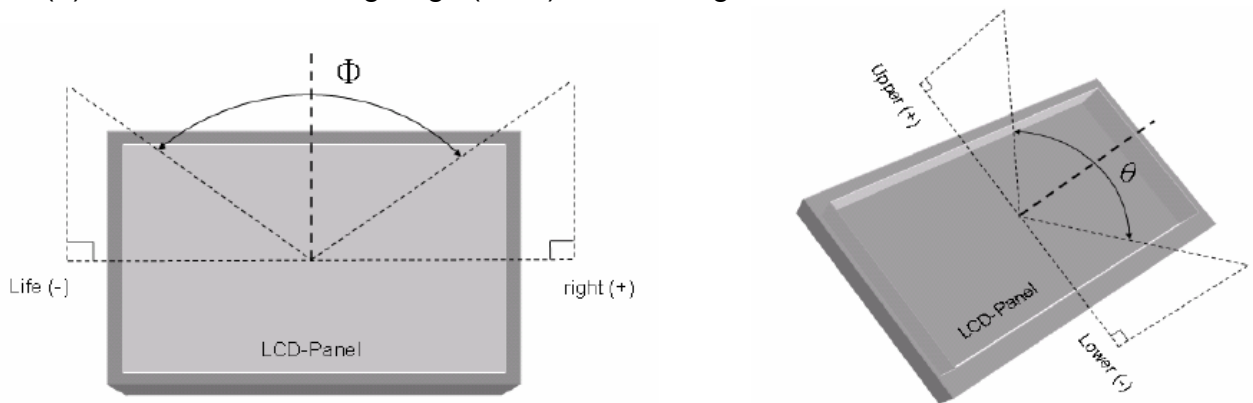

Fig9-2 Definition of Viewing Angle
(4) Definition of Viewing Angle( $\Theta$ ,  $\Phi$ ), refer to Fig9-2 as below :